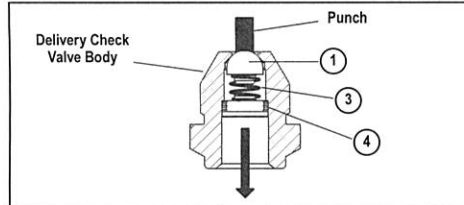

Figure 4 - Check Valve Disassembly - Type "B" End Cover
Place the check valve on a bench with the hex end down. Use a hammer and punch to remove the retainer (4), spring (3) and check valve (1) from the check valve housing as shown in Figure 4. Discard items 1 through 4.
1. Assemble the spring (3) to the retainer (4) and check valve (1) as shown in Figure 4. Ensure the spring (3) is fully seated on the retainer (4) and the check valve (1).